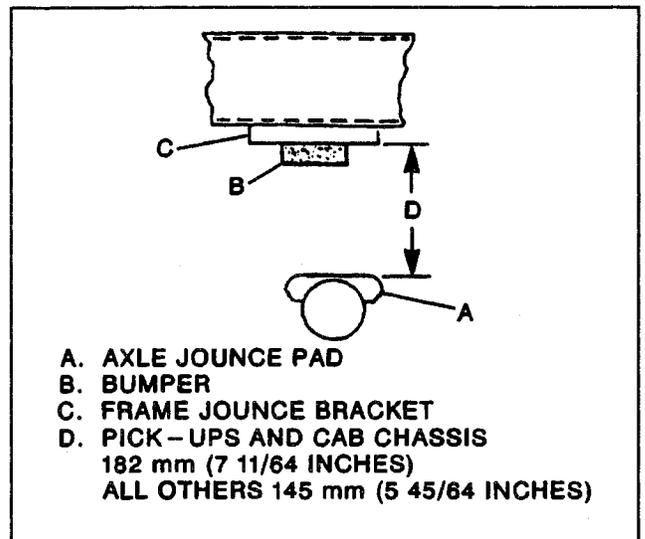

Figure 6—Rear Axle Trim Height
**Adjust (Figure 6)**
- The spring height between the top surface of the axle jounce pad and the bottom surface of the frame jounce bracket (Figure 6).
Adjust (Figure 6)